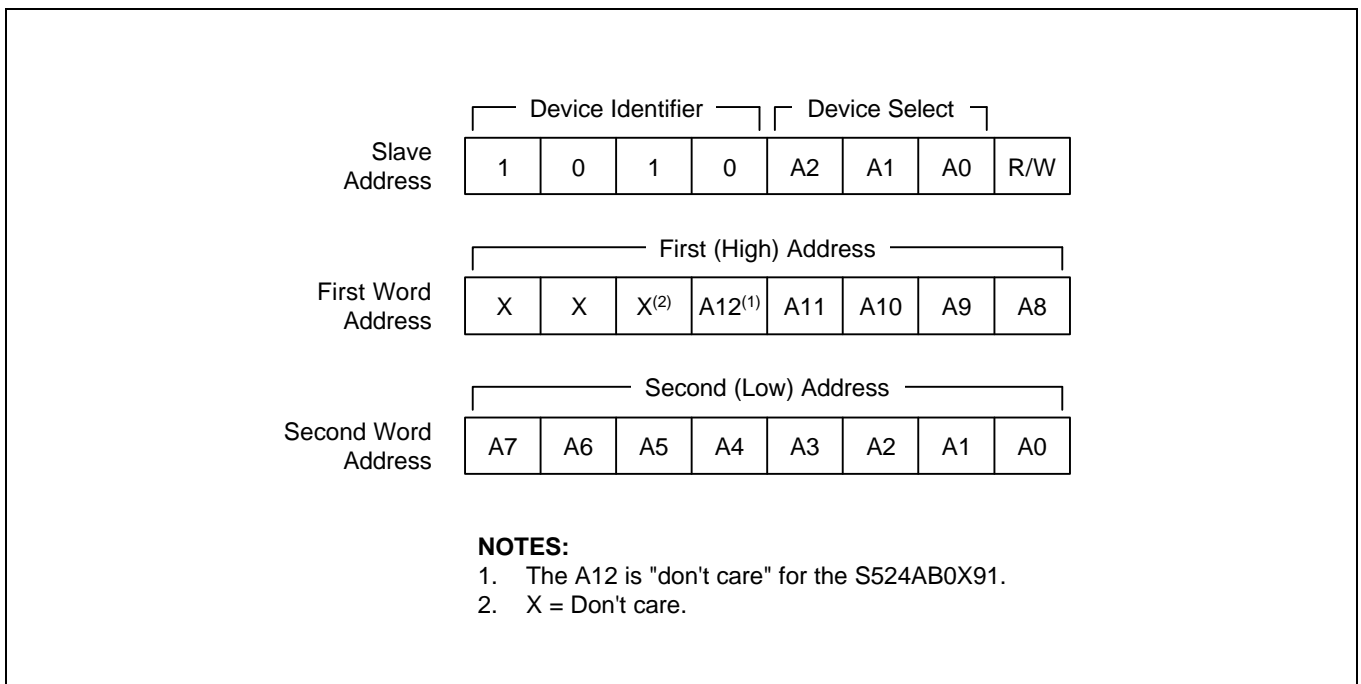

Figure 4-9. Device Address
- Slave Address:** After the master initiates a start condition, it must output the address of the device to be accessed. The most significant four bits of the slave address are called the “device identifier.” The identifier for the S524AB0X91/B0XB1 is “1010B”. The next three bits comprise the address of a specific device. The device address is defined by the state of the A0, A1, and A2 pins. Using this addressing scheme, you can cascade up to eight S524AB0X91/B0XB1s on the bus (see Figure 4-9 below).